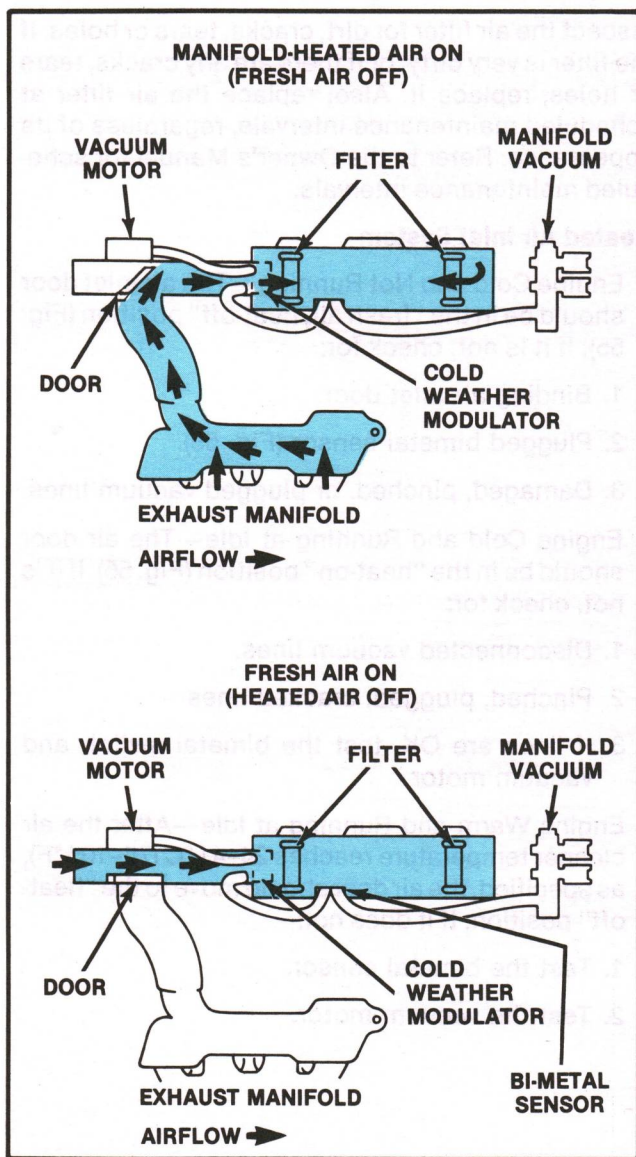

Figure 55. Heated Air Intake System Operation
Air temperature is controlled by the heated air intake system. The heated air intake system aids vaporization of the fuel on cold start-up by warming the intake air at the exhaust manifold. The air valve in the snorkel (cold air intake) should close off outside (ambient) air when a cold engine starts. At 24–41 °C (75–105 °F) in the air cleaner (depending on temperature setting of bimetal sensor), the bimetal sensor causes the air valve to open to outside air and shut off heated air (Fig. 55).
The bimetal sensor is installed in the air cleaner housing tray (Fig. 55). When the sensor is below a specified temperature, it allows a vacuum signal to flow through it to the air cleaner vacuum door motor. At a given increase in temperature, the sensor bleeds off vacuum, permitting the vacuum motor to open the duct door to allow fresh air to enter the engine.
The cold weather modulator is clipped to holes in the air cleaner housing assembly (Fig. 55) and senses the temperature of the inlet air. A bimetal disc actuates a check valve inside the modulator, depending on the air temperature.
If the heated air inlet door sticks open, heated air cannot reach the engine, even if it is cold (Fig. 55). The cold air that does enter the engine will not allow the fuel to vaporize completely. Liquid fuel will not ignite as easily as fuel that is vaporized.
- **Engine Cold and Not Running**—The air inlet door should be in the "fresh air, heat-off" position (Fig. 55). If it is not, check for:
2. Plugged bimetal sensor (Fig. 55).
- **Engine Cold and Running at Idle**—The air door should be in the "heat-on" position (Fig. 55). If it is not, check for:
2. Check the air door position. It should be in the "heat-off" position (Fig. 55).
- b) The motor stem should pull the air door to the "heat-on" position (Fig. 55).